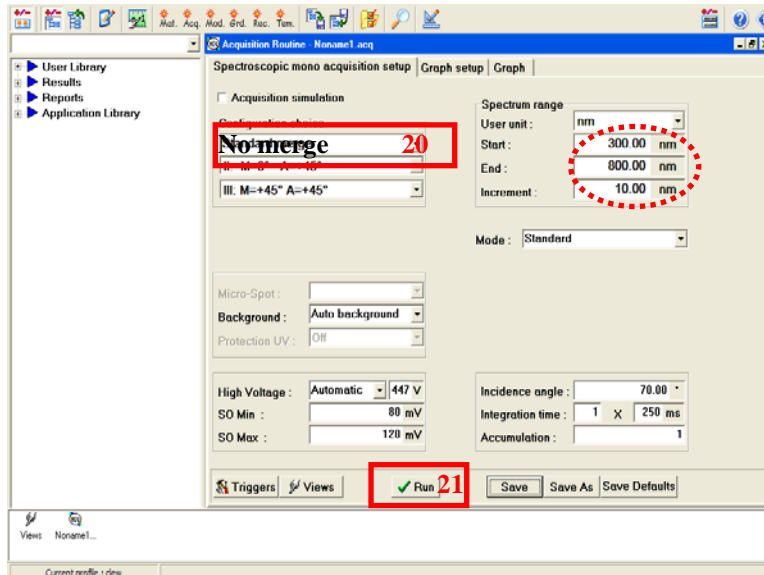

Figure 6. Acquisition routine screen before sample run.
20. You will now see the "Acquisition Routine" window. Again, **Figure 6** shows the most common merge settings, but you may change them as necessary.